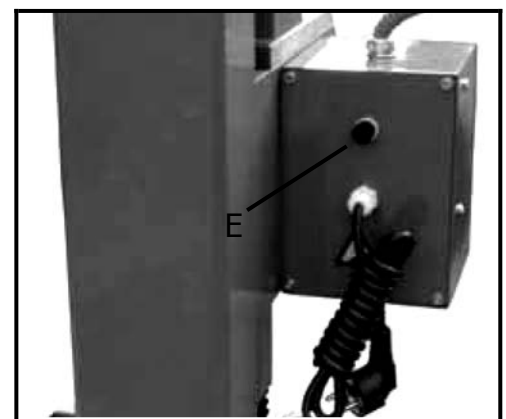

Fig.13
**Fuse Base (E, Fig. 13)** located on the back plate of electrical box. Fuse what rate is 8A is put in the base. Turn counter-clockwise the button to open and change the fuse, reverse to retighten.